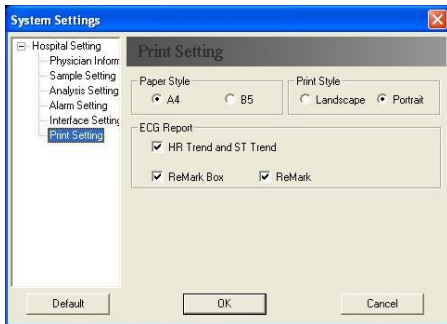

Fig.6-29
- ◆ In "**Print Setting**", you can choose the paper type(A4 or B5), printing arrangement style, and ECG print type.(Fig.6-29)